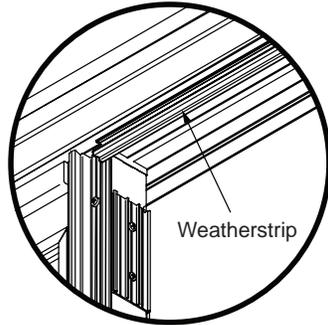

Figure 15
17. Once parting stop is in place, slide parting stop weatherstrip into parting stop T-slot (Fig. 15).